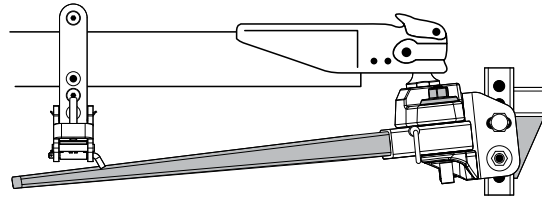

Fig. 2
- Once the correct location is determined. Place Hook Up Hanger on trailer frame at the predetermined location and insert the supplied 1/2" flat head screws into the corresponding holes of the Hook Up Hanger determined by the height of the trailer frame. (Fig. 2) Place the Hook Up Strap on the opposing side of the trailer frame and align the corresponding holes with the 1/2" flat head screws. Install the supplied 1/2" washers and 1/2" nuts and tighten to secure the Hook Up Hanger to the trailer frame. Tighten the
as a starting point to determine spring bar angle. The spring bar angle will determine the weight distributing load transferred to the ball mount. Depending on slope of bars that must be achieved, thread thumbscrew to the position necessary to establish correct angle for proper distribution of the tongue weight. (See Fig. 2 and 3 page 4.)